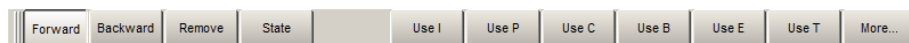

Figure 17.9. The Record Options Toolbar
2. Press Record. The Record Options Toolbar will appear at the bottom of the right-hand touch screen; see *Figure 17.9, “The Record Options Toolbar”*.